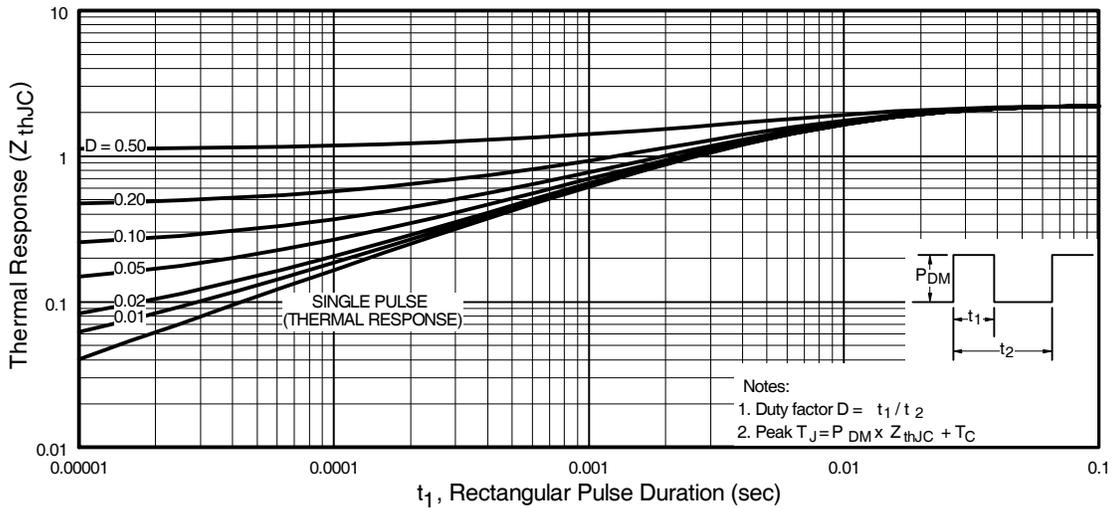

Fig 11. Maximum Effective Transient Thermal Impedance, Junction-to-Case
- ① Repetitive rating; pulse width limited by max. junction temperature. (See fig. 11)
- ② $V_{DD} = 15V$, starting $T_J = 25^\circ\text{C}$, $L = 470\mu H$